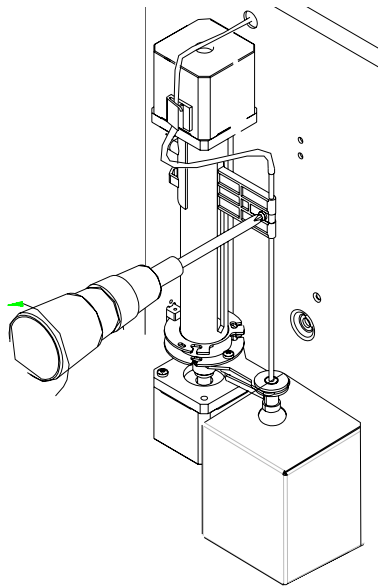

Figure 8-33 Removing screws
6. Loosen the retaining screw by a screwdriver, as Figure 8-33 shows.